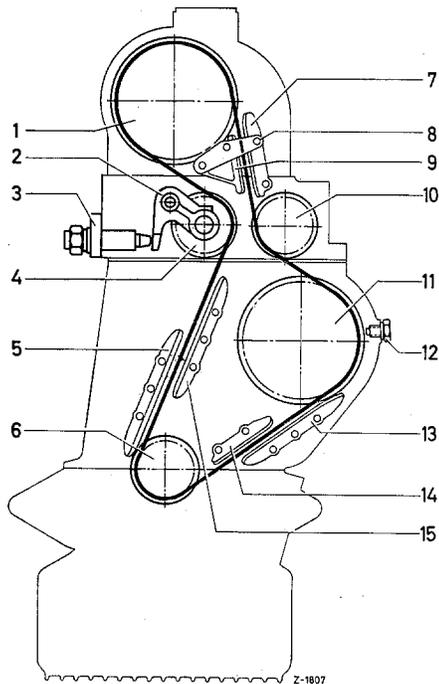

Figure 01-25/1
3. Dismount the guide rails (5, 13 and 14) (see Figure 01-25/1). To do this, use the puller Part No. 187 589 07 33 to extract the pivot pins. Then remove the chain from the cylinder crankcase.